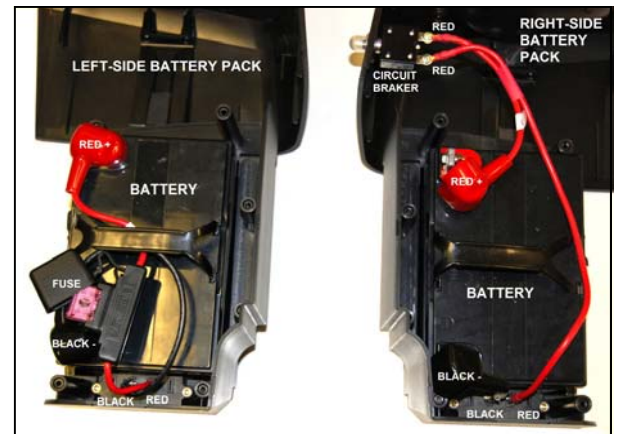

Figure 33. Inside Battery packs
7. Turn the battery pack(s) over so that the screw holes are facing down and remove the top of the of the battery pack(s). **See figure 33.**
12. Place a new battery into the bottom half of the battery pack. Make sure that the terminals are facing as shown. **See figure 33.**
14. Repeat steps 12 and 13 for the opposite battery pack. **See figure 33.**